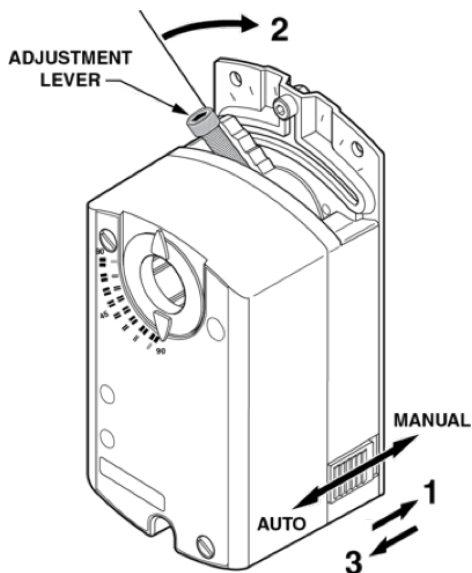

Figure 9. Manual Override.
2. If the blades will rotate counterclockwise, slide the manual override switch to manual, and move the adjustment lever to the right. Return the switch to automatic. See Figure 9.
1. Slide the red manual override knob toward the back of the actuator. See Figure 9.